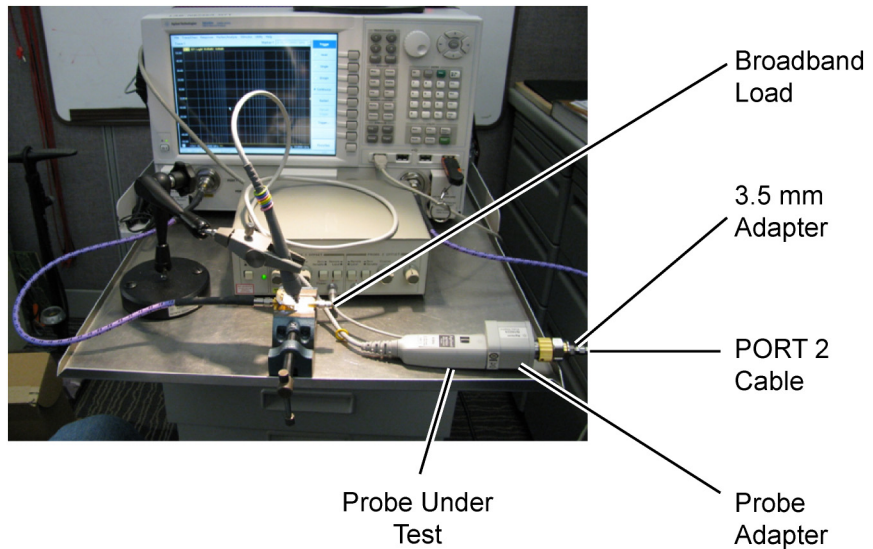

Figure 49 Measurement Setup for  $V_{out}$
- 20 Disconnect the **PORT 2** cable from output of the PV fixture and connect the cable to the output of the probe adapter as shown in **Figure 49** on page 70.